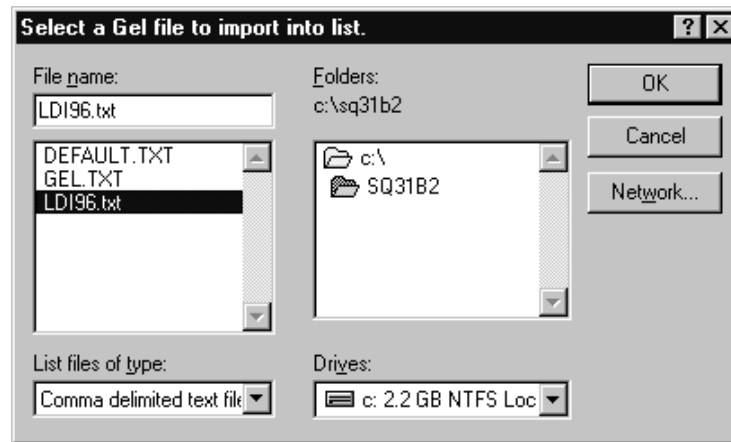

Figure 5.28. Select a Gel File To Import Into List Dialogue Box
2. Click the **Import** button to bring up the **Select a Gel File To Import Into List** dialogue box. Refer to Figure 5.28.